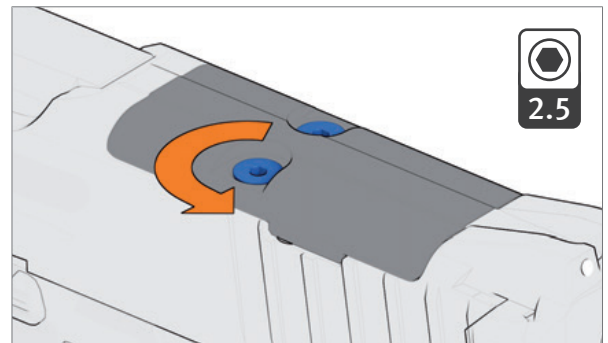

Fig. 31: Loosen screws
2. Loosen screws and remove (Fig. 31).